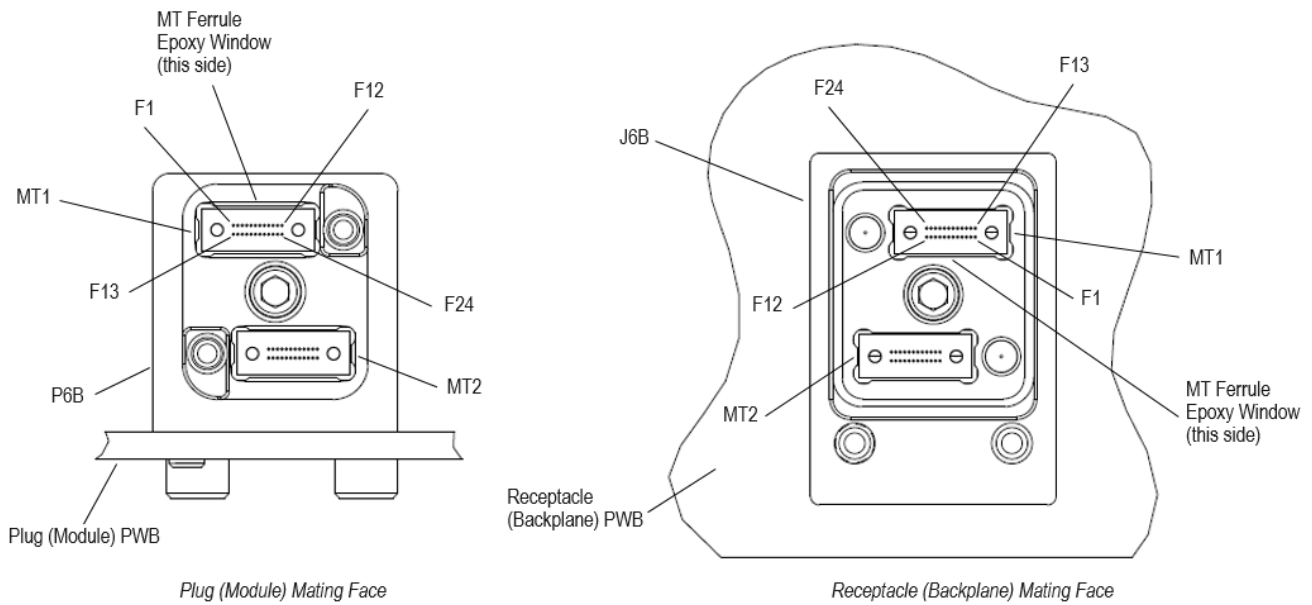

Figure 16
D. Ferrule and Circuit Identification (Figures 16 and 17)
Each MT ferrule (MT#) and fiber path (F#) shall be identified by the notation and convention shown in Figure 16. The fiber path number applies as viewed from the receptacle (backplane) and plug (module) connector mating faces.
ANSI/VITA 65.0 requires the MT ferrules installed in the plug connector to be oriented with the epoxy window facing upward, away from the module PWB. The resulting F# locations for a 24-fiber MT ferrule are as shown in Figure 16. Accordingly, for a 12-fiber MT ferrule, F1 is likewise on the left and F12 is on the right, as viewed from the connector mating face.
The connector locations “P6B” and “J6B” identified in Figure 16 are shown as examples and are variable for the module and backplane position within the card slot in accordance with VITA 66.0.